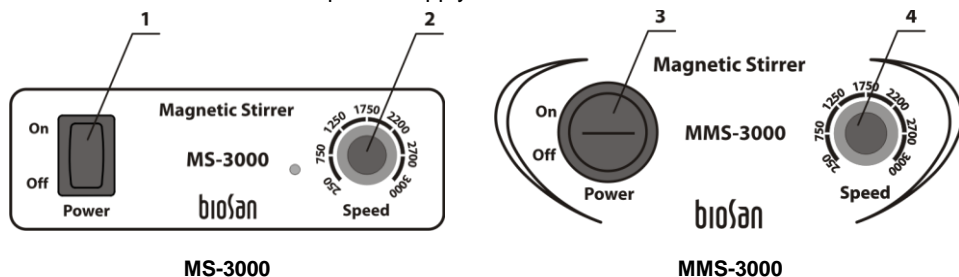

Figure 3. Control panel
5.3 Turn the **Power** switch (fig. 3/1 or 3/3) into the position **On**.
5.4 Set the required speed using the **Speed** knob (fig. 3/2 or 3/4). Increase the speed.